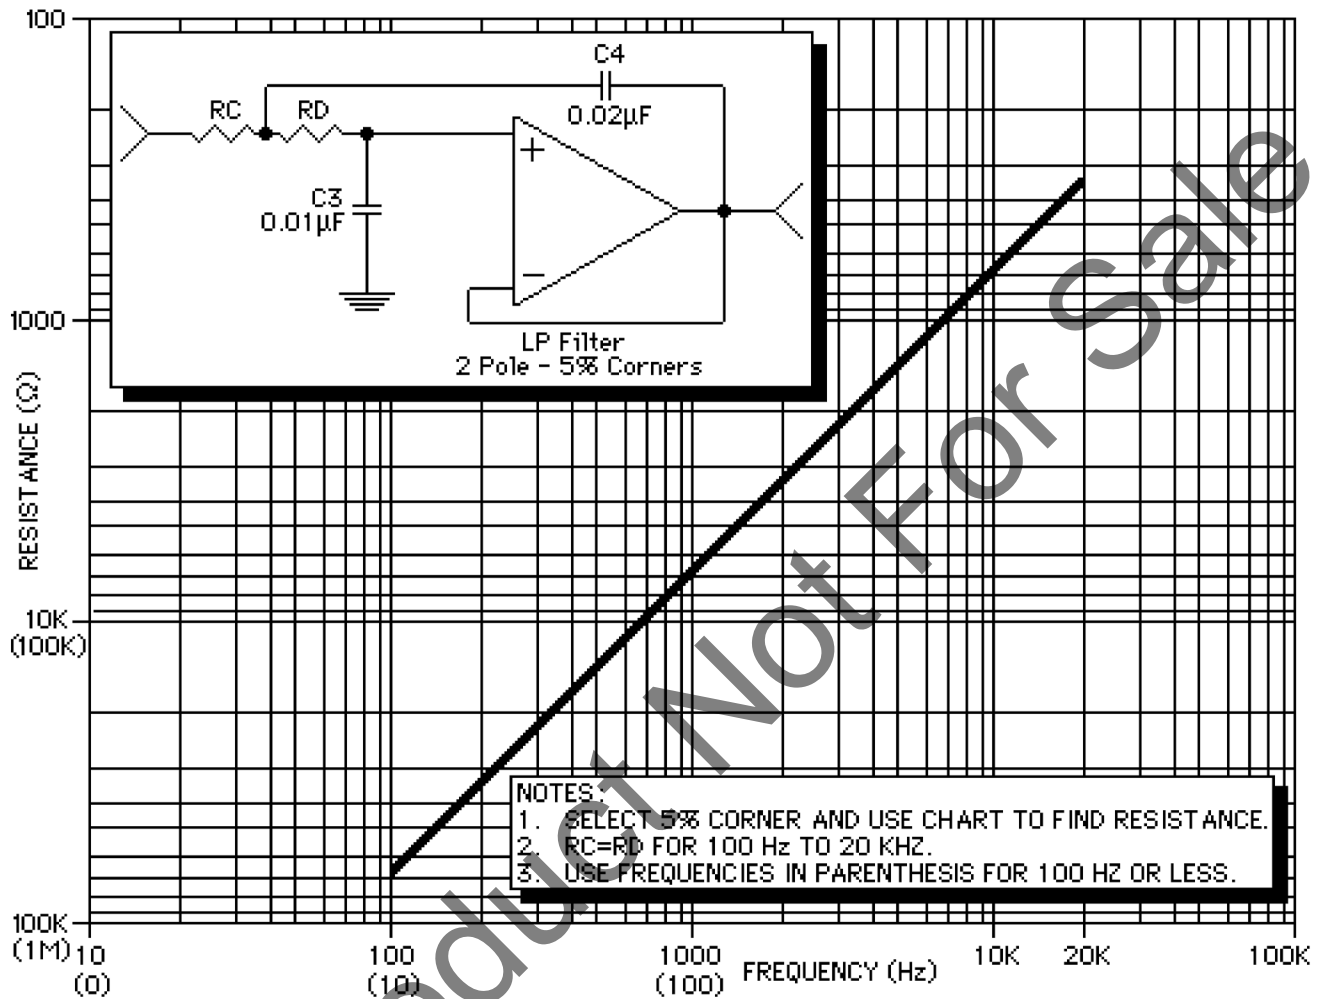

FIGURE 6-4: LOW-PASS RESISTOR SELECTION CHART
1. Select a desired cut-off frequency and, using Figure 6-4, first determine the resistance value of resistors RC and RD. Both are the same in value ( $RC = RD$ ).